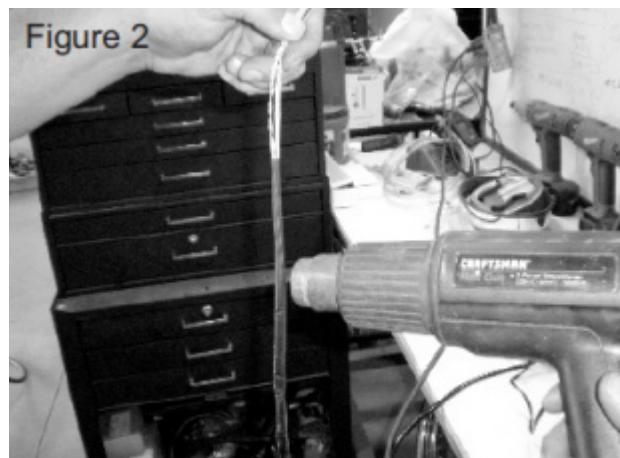

Figure 2
6. Once you've soldered all the wires, essentially lengthening the left and right control harnesses, one at a time slide the heat-shrink tubing down over the solder point and use a heat gun to apply heat until the tubing has shrunk snugly around both wires and their soldered joint. Repeat for all the extended wires. Then slide the larger diameter heat-shrink tubing over all the now covered connections and using a heat gun shrink that tubing snugly over them (figure 2).